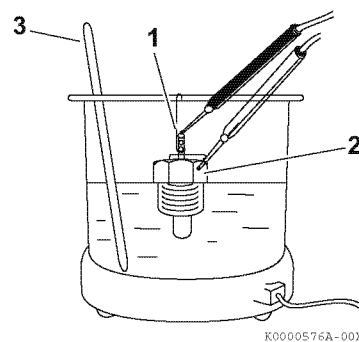

Figure 8-6
1. Check for proper operation of the temperature switch. Connect a continuity light or ohmmeter to the temperature switch. Connect one lead to the terminal of the switch (**Figure 8-6, (1)**) and the other lead to the metal portion of the switch (**Figure 8-6, (2)**).
2. Place the temperature switch and an accurate thermometer (**Figure 8-6, (3)**) in engine coolant.